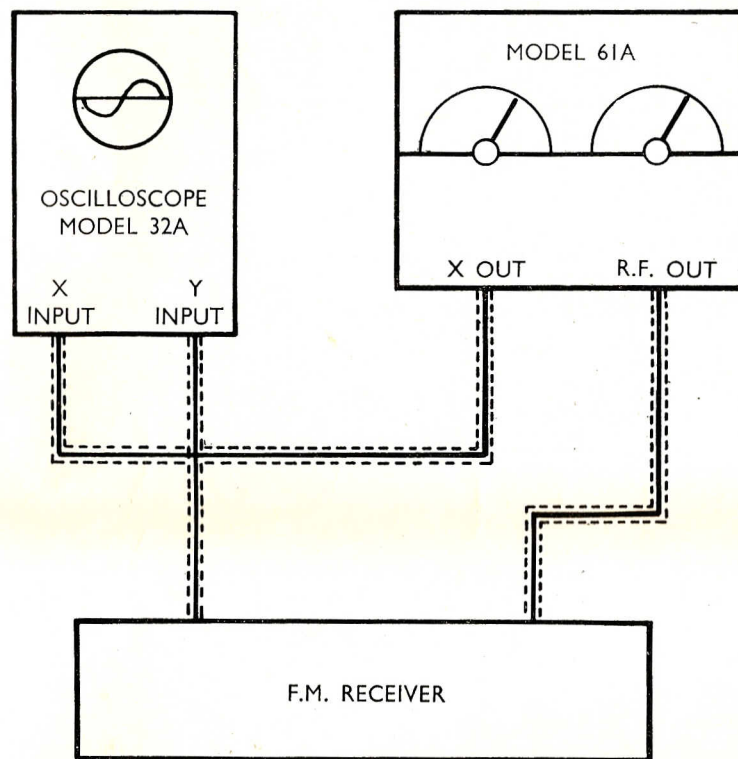

Fig. 6. Testing F.M. Receiver
6.9 F.M. receiver alignment (Fig. 6)